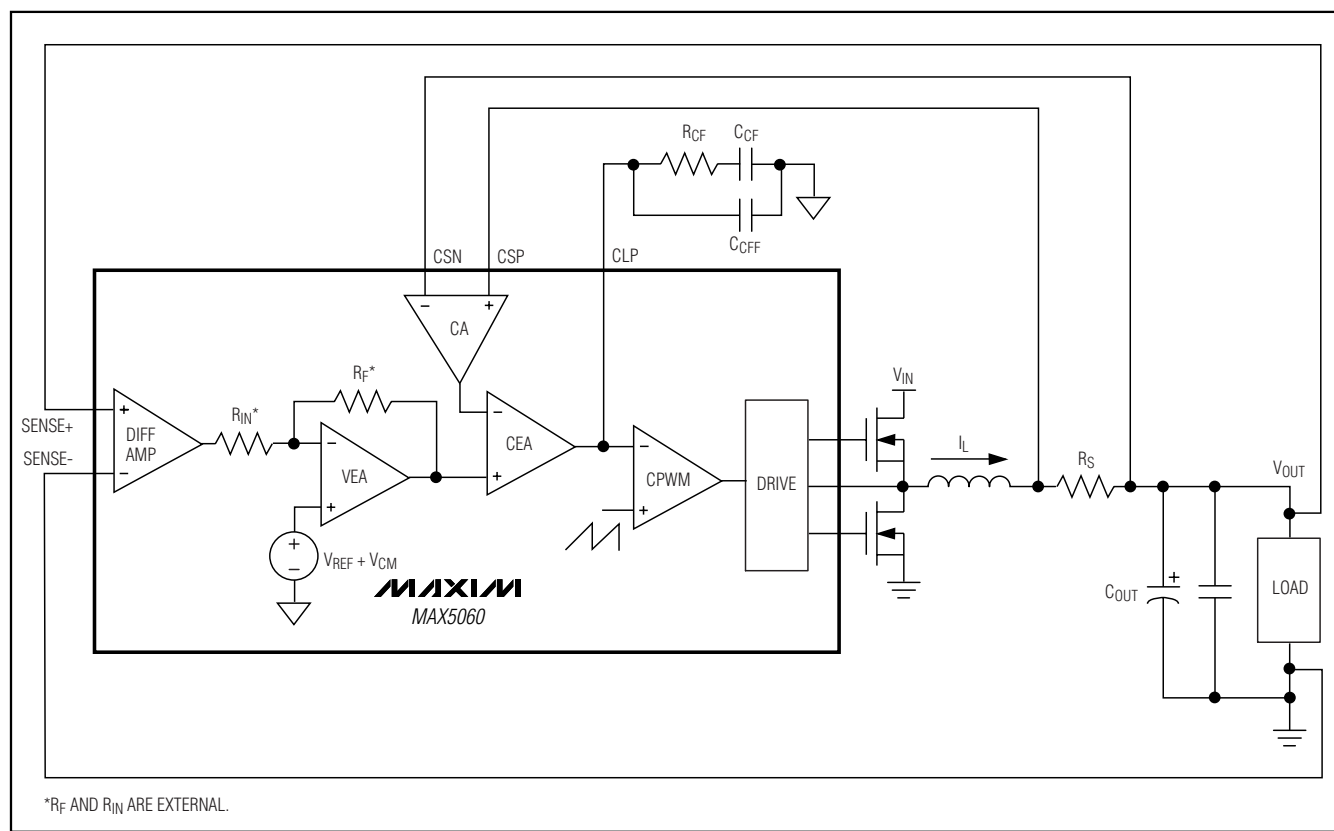

Figure 5. MAX5060 Control Loop
The MAX5060/MAX5061 use an average-current-mode control scheme to regulate the output voltage (Figure 5). The main control loop consists of an inner current loop and an outer voltage loop. The inner loop controls the output current ( $I_{PHASE}$ ), while the outer loop controls the output voltage. The inner current loop absorbs the inductor pole reducing the order of the outer voltage loop to that of a single-pole system.
The peak-current comparator provides a path for fast cycle-by-cycle current limit during extreme fault conditions such as an output inductor malfunction (Figure 5). Note the average current-limit threshold of 26.9mV still limits the output current during short-circuit conditions. To prevent inductor saturation, select an output inductor with a saturation current specification greater than the average current limit. Proper inductor selection ensures that only the extreme conditions trip peak-current comparator, such as a broken output inductor. The 60mV threshold for triggering the peak-current limit is twice the full-scale average current-limit voltage threshold. The peak-current comparator has only a 260ns delay.
The MAX5060/MAX5061 has a transconductance current-error amplifier (CEA) with a typical  $g_m$  of 550 $\mu$ S and 320 $\mu$ A output sink- and source-current capability. The current-error amplifier output CLP, serves as the inverting input to the PWM comparator. CLP is externally accessible to provide frequency compensation for the inner current loops (Figure 5). Compensate (CEA) so the inductor current down slope, which becomes the up slope to the inverting input of the PWM comparator, is less than the slope of the internally generated voltage ramp (see the *Compensation* section).
The PWM comparator (CPWM) sets the duty cycle for each cycle by comparing the output of the current-error amplifier to a 2VP-P ramp. At the start of each clock cycle, an R-S flip-flop resets and the high-side driver (DH) turns on. The comparator sets the flip-flop as soon as the ramp voltage exceeds the CLP voltage, thus terminating the ON cycle (Figure 5).
The differential amplifier (DIFF AMP) facilitates output-voltage remote sensing at the load (Figure 5). It provides true-differential output voltage sensing while rejecting the common-mode voltage errors due to high-current ground paths. Sensing the output voltage
Set the voltage-positioning window ( $\Delta V_{OUT}$ ) using the resistive feedback of the voltage-error amplifier (VEA). Use the following equations to calculate the voltage-positioning window (Figure 5):